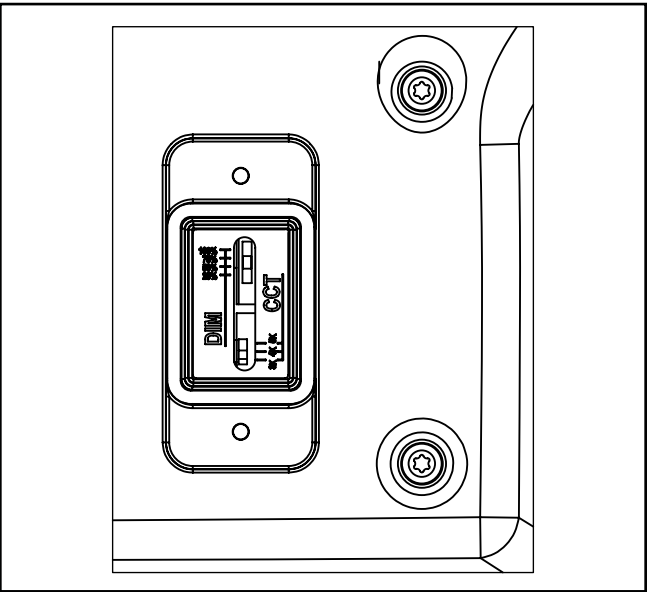

Figure 4.
Adjusting color and power (Figure 4.)
- 2. Select the desired color temperature (3000K, 4000K, or 5000K) by sliding the switch lever. (Figure 4)
- 3. Select the desired lumen level (100/75/50/25%) by sliding the switch lever. (Figure 4)